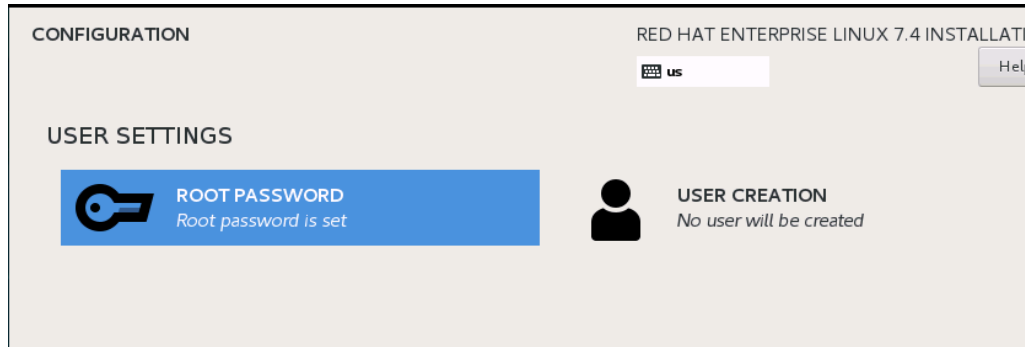

Figure 6-33. Red Hat Enterprise Linux 7.4 Configuration
8. In the Configuration window (Figure 6-33), select the language to use during the installation process, and then click **Continue**.